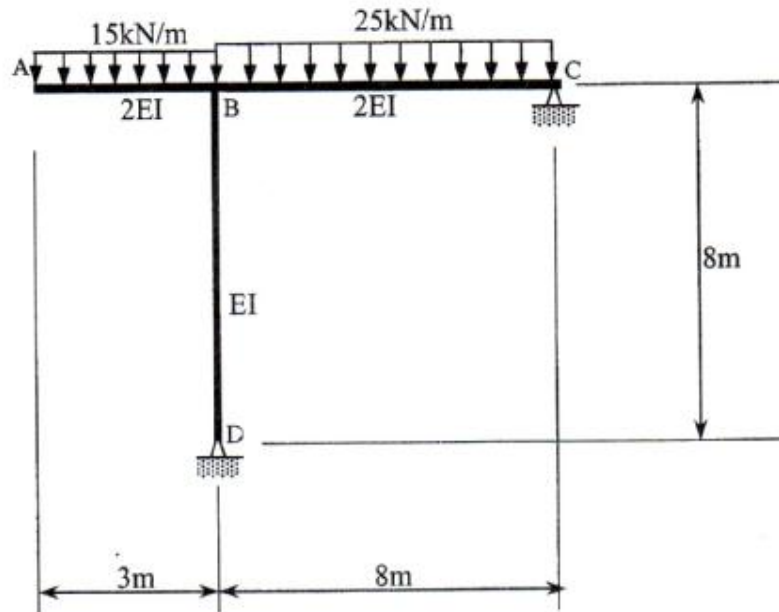

Fig. 3
3. (b) Fig. 3 shows a rigid frame with pinned supports at C and D. A vertical uniformly distributed load of 15kN/m and 25kN/m act along beam AB and BC, respectively. Calculate all reactions by using the method of consistent deformation. Use horizontal reaction at support C as redundant.